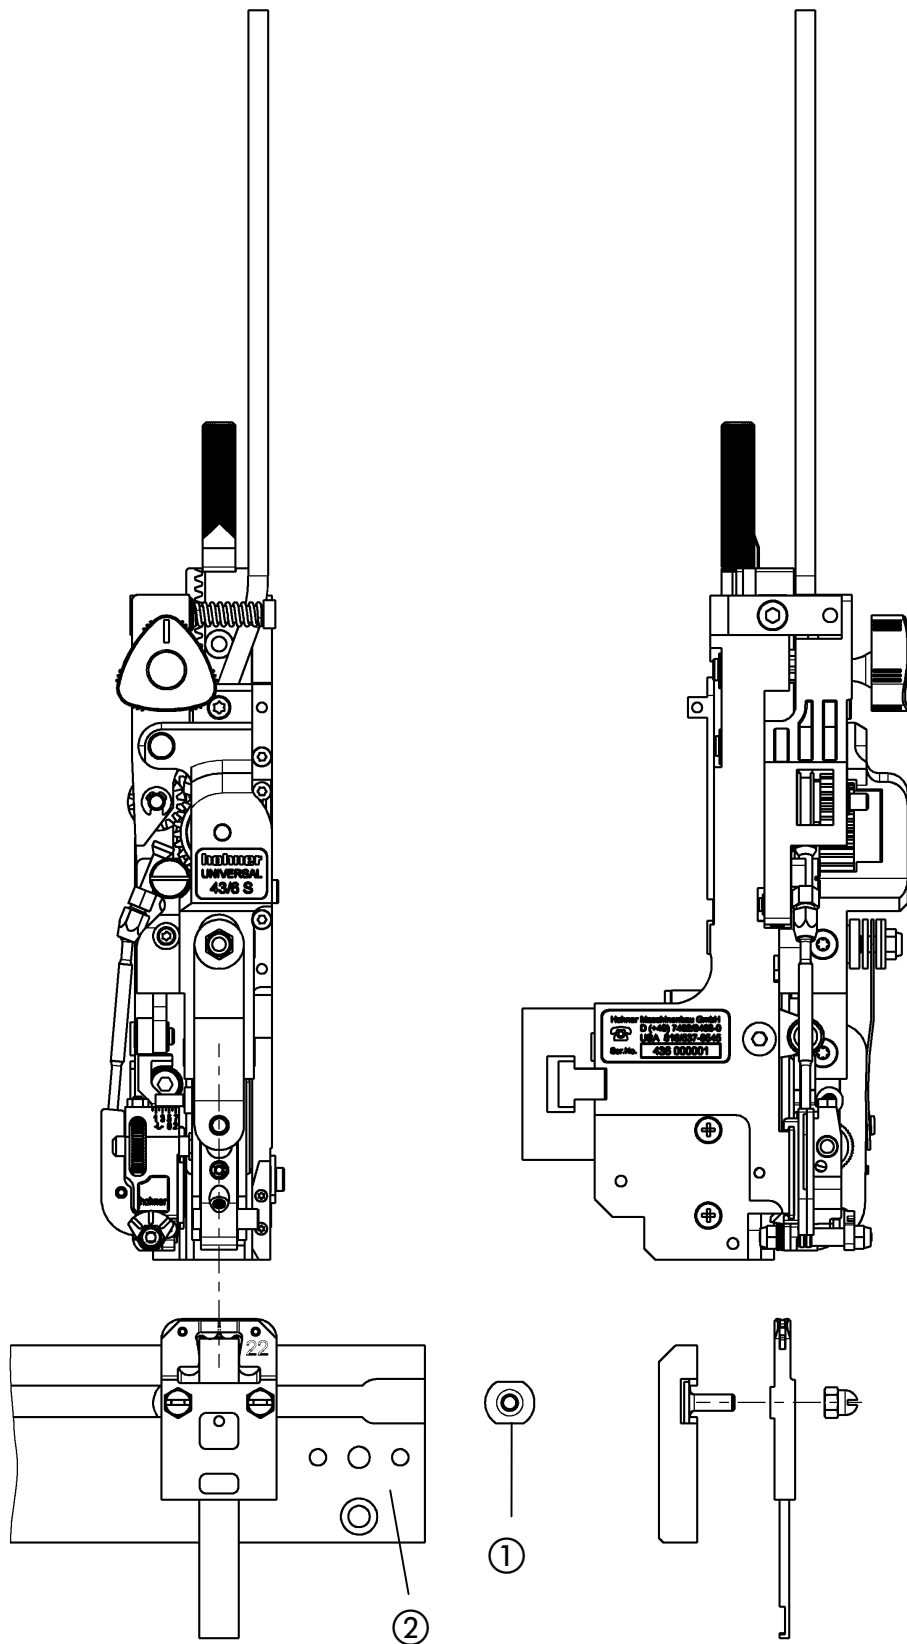

Fig. 7
- Fig. 7 -
- Install slotted screws ① (and tenon block) laterally into the clincher box mounting rail ②.